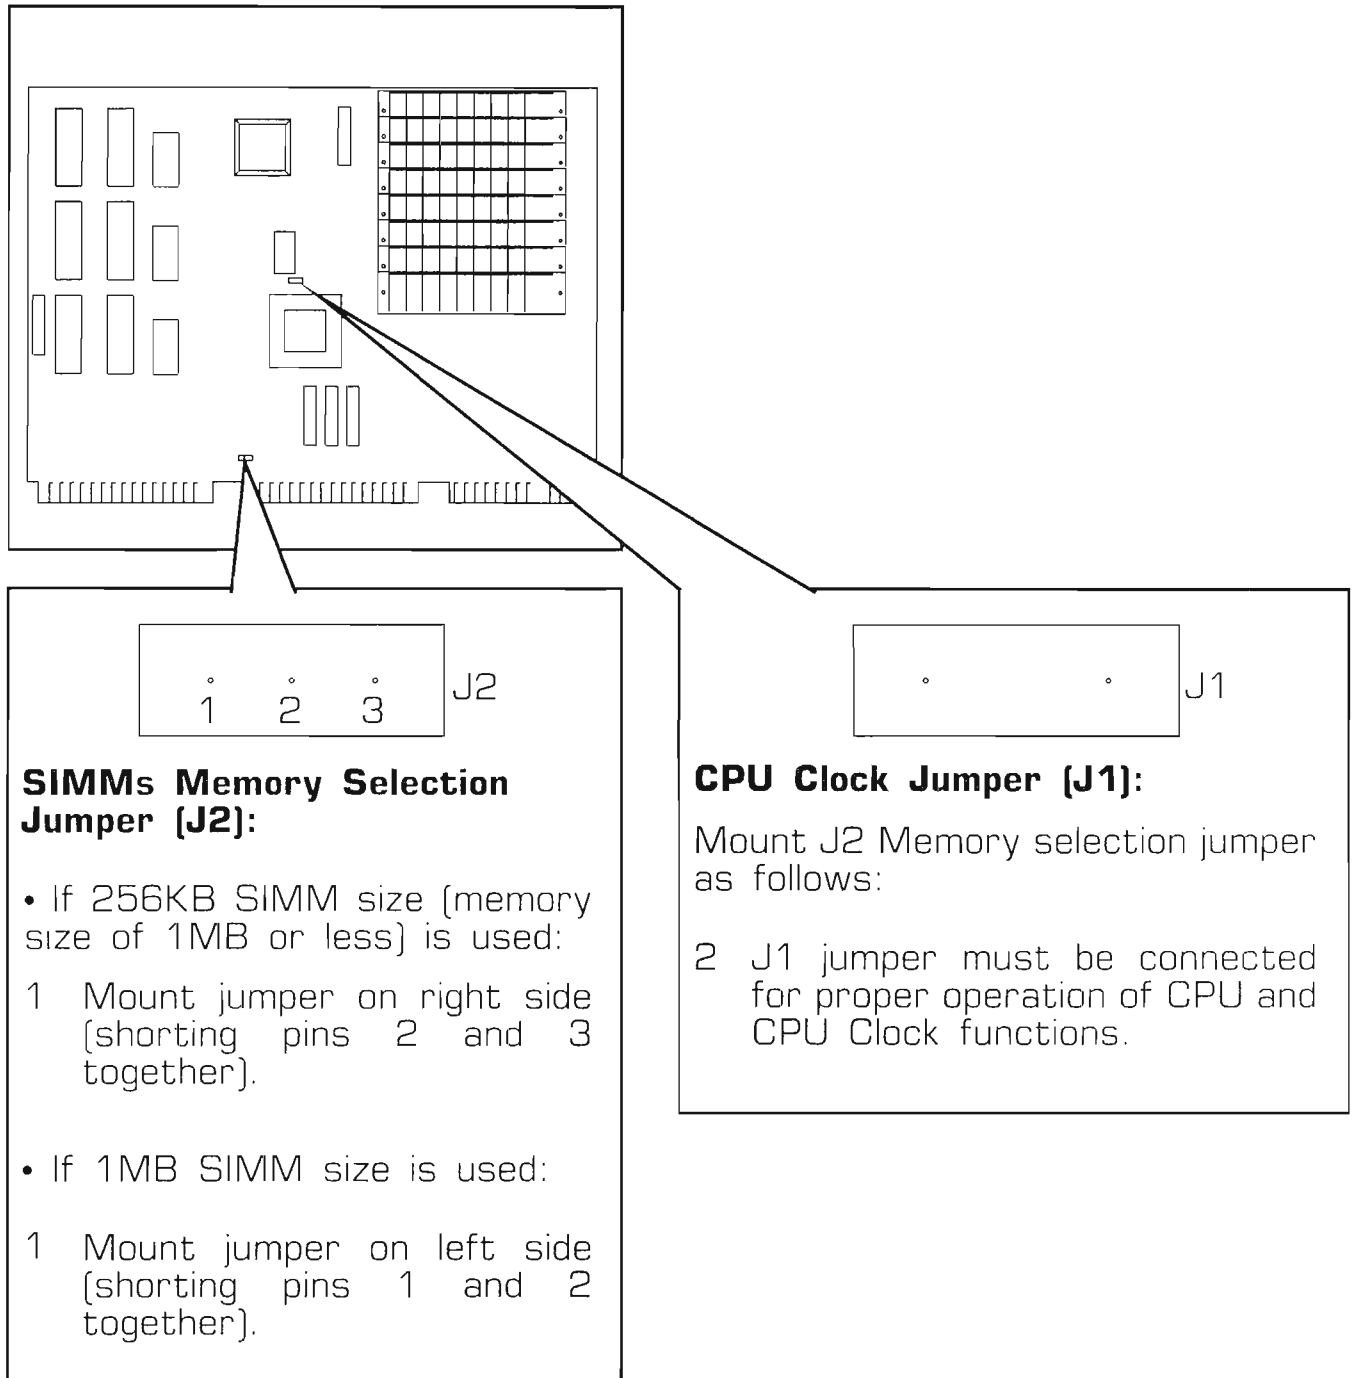

Figure B-4. Enhanced Micro VP SIMMs CPU/Memory PCB Jumpers
- 6) Position jumper J2 correctly to reflect the 1MB SIMMs Module installation (Ref. Figure B-4).